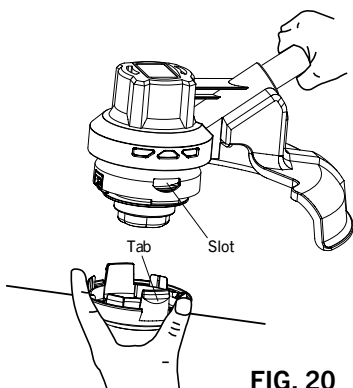

FIG. 20
11. With the spool base facing downward, align the slots in the spool retainer with the tabs on the spool base and press the retainer evenly down until it snaps into place (FIG. 20).